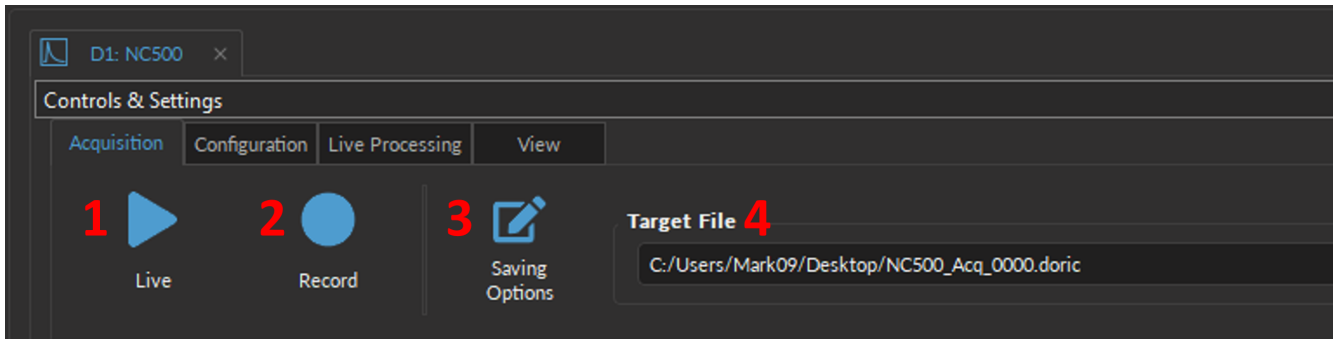
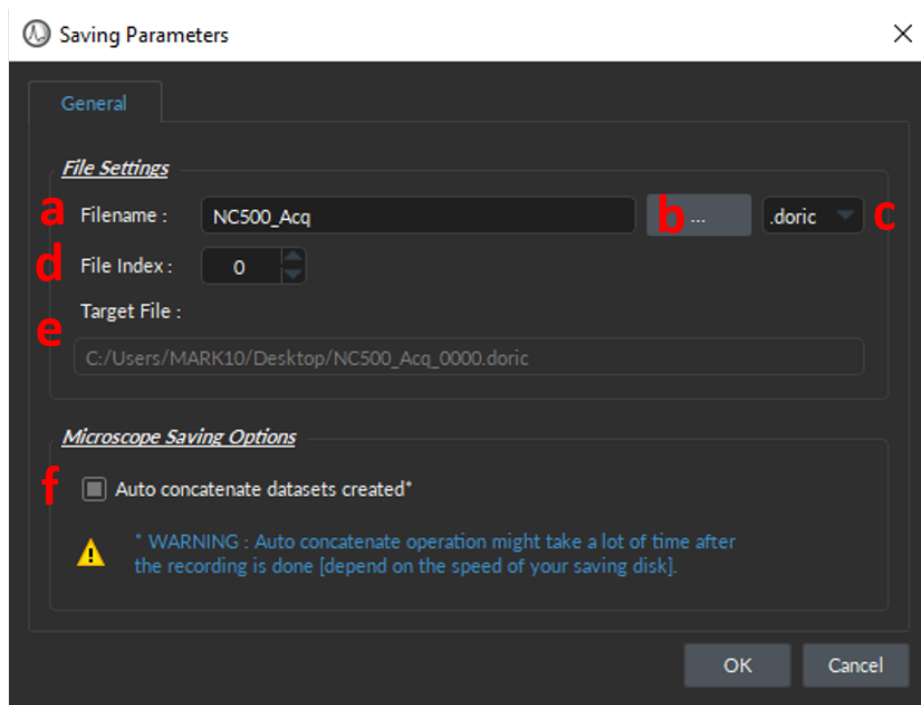

Figure 16.7: Acquisition Tab
Figure 16.8: Saving Parameters window
The **Acquisition** Tab contains the following tools (Fig. 16.7):
1. The **Live** button (Fig. 16.7, 1) activates all configured channels from the **Configuration**. This mode does not save data and only keeps around 1 minute of data on screen. The **Live** mode is useful for quickly testing the recording software and ensuring the parameters are properly set.
2. The **Record** button (Fig. 16.7, 2) activates all configured channels from the **Configuration** and saves the recorded data in the *.doric* file (directory specified in Section 16.3, no. 3). However, modifying the **Master Trigger Options** (Section 16.5, no. 2b) from the default (*Software Command* mode) to any other options changes the function of the **Record** button. For instance, in the *Triggered* or *Gated* mode, the **Record** button sets the acquisition system to a listening state that waits for a trigger from a DIO channel to start the recording (Section 16.5, no. 2b, triggered & gated). Alternatively, when using the **TimeSeries** mode, the **Record** button opens the **TimeSeries** window (Fig. 16.26b) where users can set the timing parameters and launch the recording (Section 16.5, no. 2b, timeseries).
3. The **Saving Options** (Fig. 16.7, 3) button opens the **Saving Parameters** window (Fig. 16.8), which includes:
- a) The **Filename** text-box lets users specify the name of the data file that will be saved (Fig. 16.8, a).
- b) The **[...]** button opens a File Explorer window where users can select the folder where the data will be saved (Fig. 16.8, b).
- c) The **File format** (Fig. 16.8, c) is **.doric**¹, an HDF5-based format that supports metadata (signal, video, images, tables, parameters, etc.). However, while not recommended, it is possible to export a **.doric** file into **.csv** format through the **Doric File Editor** module (Chapter 4, Section 4.2.4).
- d) The **File Index** (Fig. 16.8, d) box is used to define the current indexation number used for multiple files saved during the same measurement session. The suffix is incremented automatically when recording multiple files within the same path & filename during the same session. This prevents accidentally overwriting data.
- e) The **Target File** (Fig. 16.8, e) displays the absolute path and filename where the data will be saved.
- f) The **Auto concatenate datasets created** checkbox (Fig. 16.8, f), if checked, will automatically merge data files of larger size (above 10 Gb) that would be saved into individual files if the box is unchecked. For the latest case, any recording of more than 10 Gb in size will be saved accordingly into split files with the same name but a different File Index. Note that the Auto concatenate operation might take a lot of time after the recording is done to create a single file.
4. The **Target File** (Fig. 16.7, 4) displays the path and file name (from Section 16.3, no. 3e) where the data will be stored once the **Record** button is pressed. Select the **Saving Options** button (Fig. 16.7, 3) to change the path and filename.